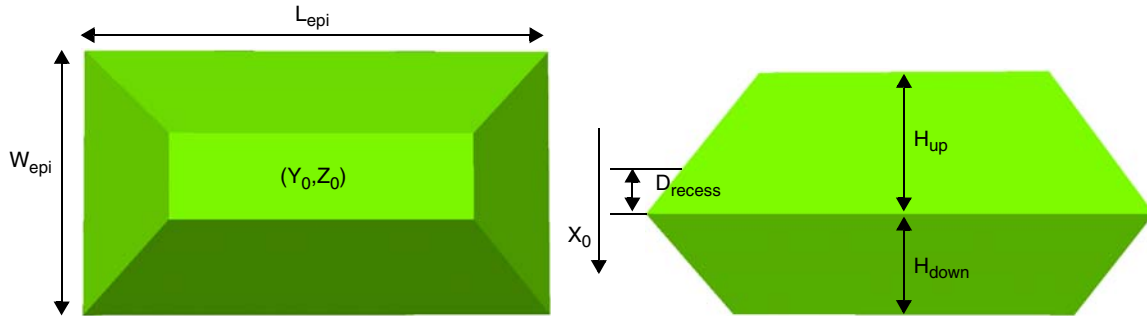

Figure 73 Parameters for generating epitaxial diamond-shaped polyhedron
- Figure 73 on page 246 describes the other parameters.